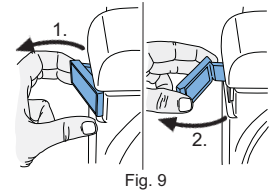

Fig. 9
- Open door latches (Fig. 9).
- Remove the Allen key (22) from its holder.
- Remove cover (15).
- Loosen the fastening screw (16), and remove the disc.
- Place a new disc on the lock pin (17).
- Open door latches (fig. 9), remove door and set aside.
- Pull grinding table (5) at leading edge upward from ball head.
- Open door latches (Fig. 9), remove door and set aside.
- Screw pull-off tool (11) into flange (23) until flange comes off.